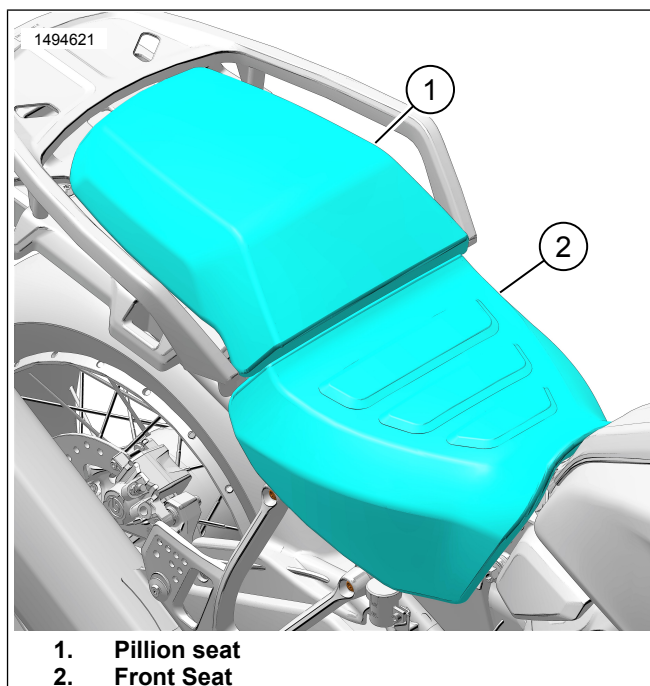

Figure 2. Seat
1. See Figure 2. Remove seat pillion (1) and seat (2). See service manual.
1. See Figure 2. Install seat (2) and seat pillion (1). After installing seat, pull up on seat to verify that it is secure. See service manual.